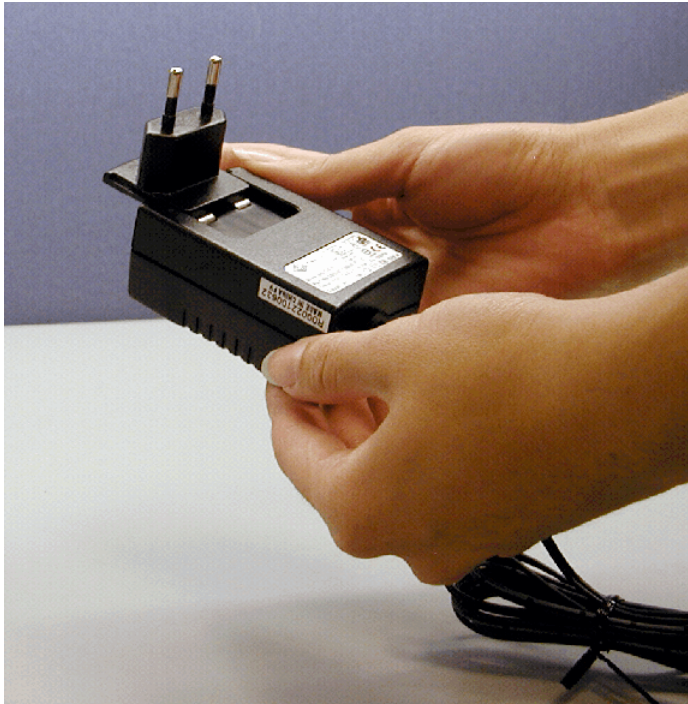

**Figure 16. 9 VDC Universal Power Supply Components**
The universal 9 VDC power supply offers three different plug configurations and a tool that aids in removing one plug configuration to insert another, as shown in Figure 16.
► **Note:** Figure 16 is for the 9 VDC power supply. The 6 VDC power supply might look different.